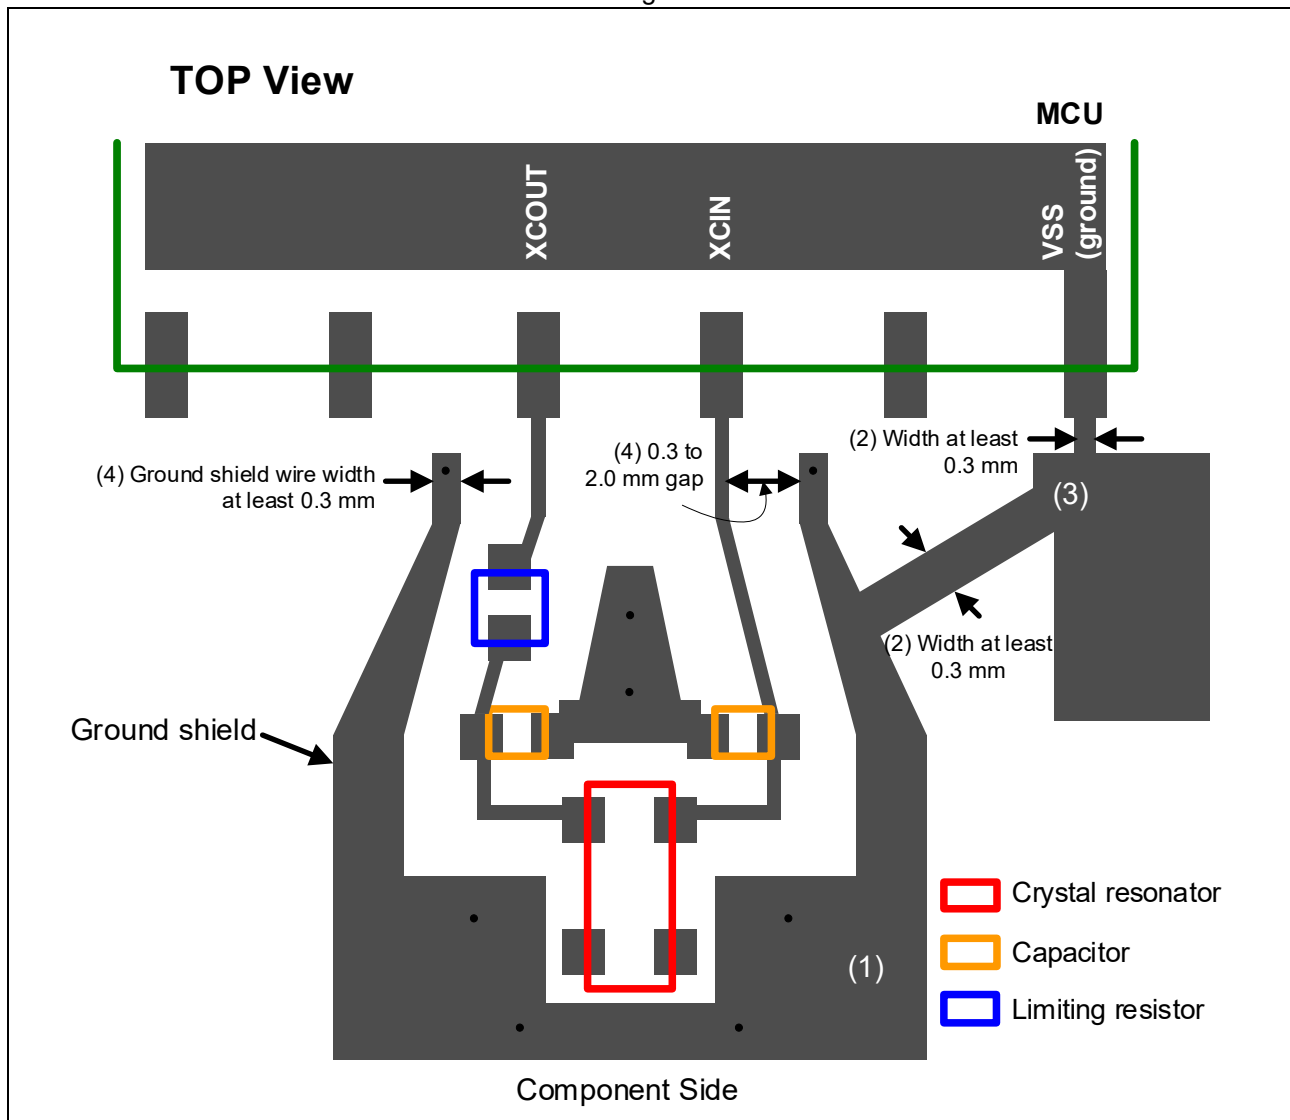

Figure 3.8 Trace Example for the Ground Shield
Shield the crystal resonator with a ground trace. (1) to (4) below describe the points regarding the ground shield, and Figure 3.8 shows a trace example.
- (1) Lay out the ground shield on the same layer as the crystal resonator wiring.
- (2) Wire the ground shield as close to the VSS pin on the MCU as possible, and ensure that the wire width is at least 0.3 mm.
- (3) To prevent current from running to the ground shield, branch the ground shield and the ground on the board near the VSS pin on the board.
- (4) Make the ground shield wire width at least 0.3 mm, and leave a 0.3 to 2.0 mm gap in between wires. Do not cross the XCIN and XCOU wires with other signal wires.